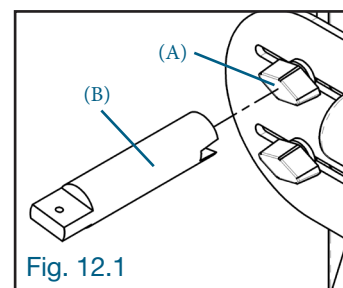

Fig. 12.1
12.1 PROCÉDURES D'AJUSTEMENT (Fig. 12.1)